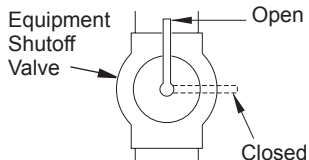

Figure 15 - Equipment Shutoff Valve
1. Close equipment shutoff valve (see Figure 15).
1. Open equipment shutoff valve (see Figure 15).
3. Close equipment shutoff valve (see Figure 15, page 16).